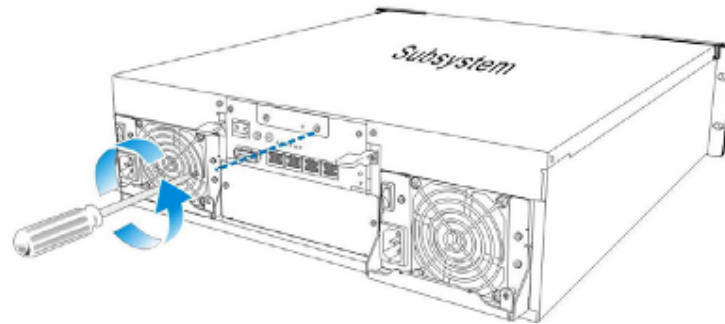

Figure 2-12: Loosening the BBU Retention Screws
- Step 2.** Use a screwdriver to **loosen the two (2) retention screws located on both sides of the dummy plate**. (See **Figure 2-12**)